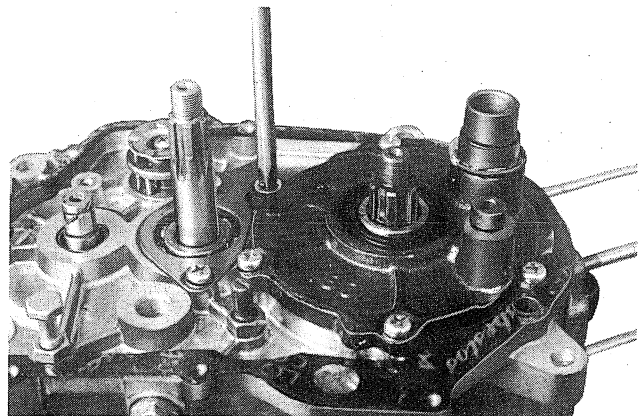

Fig. 3-12-1
- 1) Remove the valve cover mounting bolts and remove the valve cover. (Fig. 3-12-1)